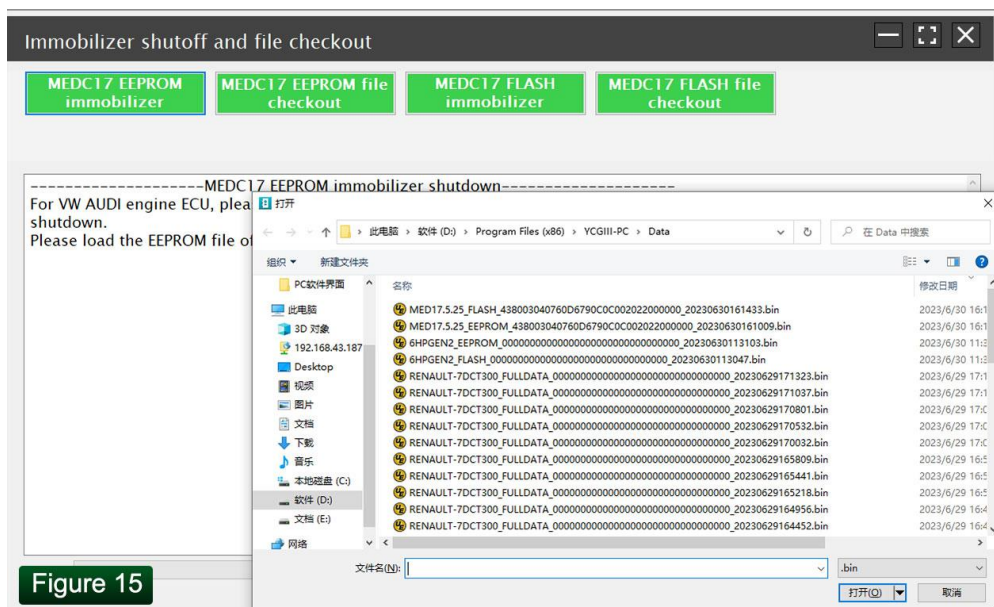

Figure 15
2.2 File verification and IMMO off (process: select file > connect network to obtain > save file), as shown in Figure 15.